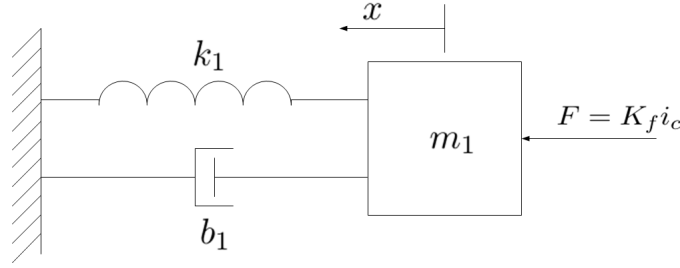

Figure 6: Simple model for the mechanical dynamics of FTS
As shown on the schematics, the back electromotive force (back emf) from the actuator is modeled as a dependent voltage source, whose voltage is proportional to the velocity of the cutting tool: $v_{back_emf} = K_f \dot{x}(t)$. Moreover, the force generated by the actuator is assumed to be proportional to the actuator current with the same gain: $F(t) = K_f i_c(t)$. A simple model describing the mechanical dynamics of FTS may be shown as in Figure 6 where the actuator force $F(t)$ is applied to a mass m_1 subject to resistance by a spring k_1 and a damper b_1 .
- (a) Find the plant transfer function $P_{elec}(s) = \frac{V_s(s)}{V_c(s)}$ with the back emf voltage included. Note that, in this case, the FTS dynamics, as modeled in Figure 6, will also be reflected in your plant transfer function.
From the plot, it is clear that the plant dynamics are more complicated than what the simple model in Figure 6 would suggest. Namely, the mass/spring/damper model would only represent the lowest frequency mode seen on the plot, but there are also higher frequency resonance modes as well as a time delay.
- (a) On the basis of the lower frequency dynamics, as shown by the first mode, find the values for the mass m_1 , the spring constant k_1 , and the damper constant b_1 in the simple FTS model shown in Figure 6.